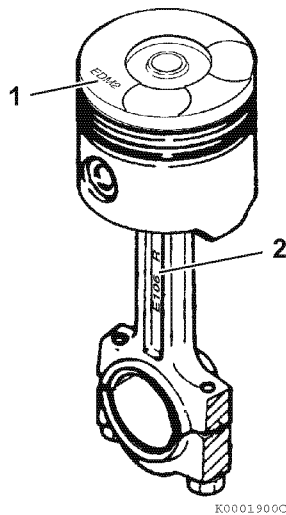

Figure 6-90
2. Place the connecting rod into the piston. The identification mark (1, **Figure 6-90**) on the top of the piston and the embossed mark (2, **Figure 6-90**) on the beam of the connecting rod will be facing in the same direction.